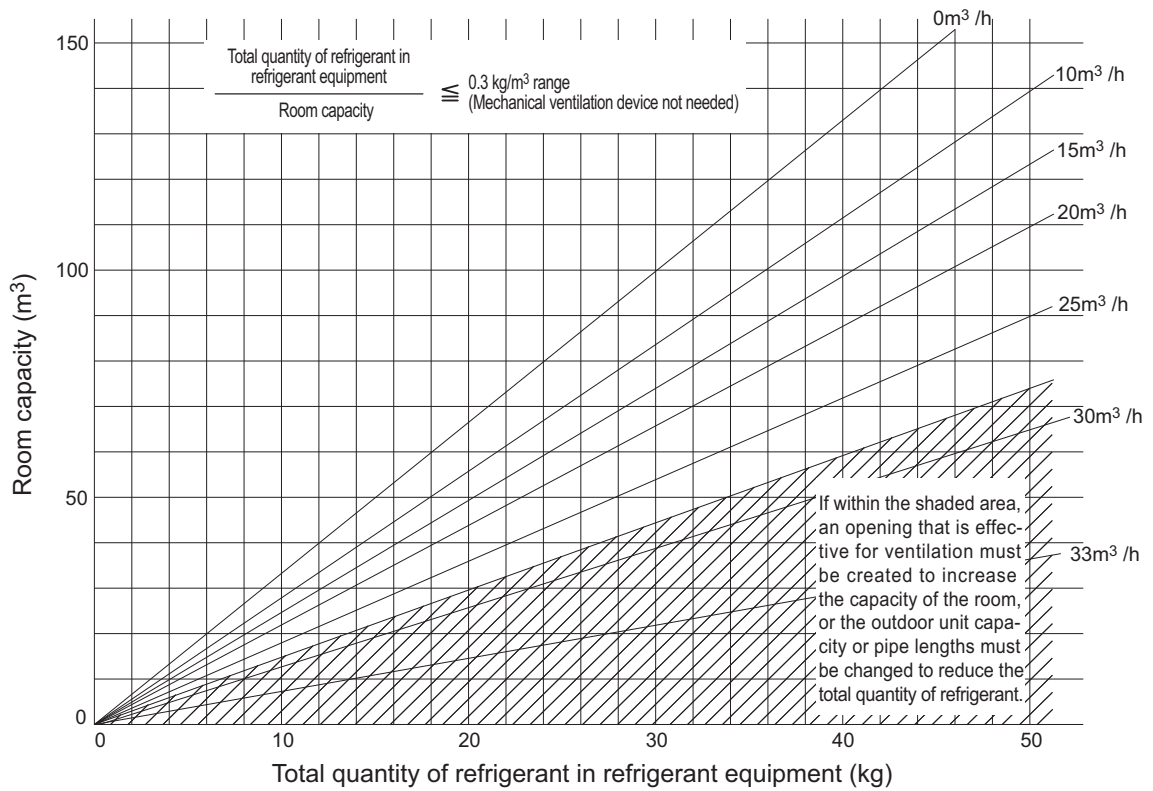

Figure 1: Selecting the system based on ventilation capacity
The exhaust capacity must be at least as large as indicated in Figure 1, based on the total quantity of refrigerant in the refrigerant equipment and the room capacity.
- a) Even if a ventilation system is to be installed, the conditions indicated by the shaded area of Figure 1 should be avoided due to the possibility, even if remote, of the ventilation system failing. If actual conditions fall into this area, openings that provide effective ventilation should be created as described in **Measure 1** and **Measure 2** in order to increase the capacity of the room, or the total quantity of refrigerant should be reduced by changing the capacity of the outdoor unit or the length of the pipes.
- b) If **Measure 1** **Measure 2** cannot be implemented when a ventilation system is installed and actual conditions fall under the shaded area of Figure 1, implement another means of ensuring safety that is independent of the ventilation system. For example, install a refrigerant shut-off valve that is activated by a sensor when a refrigerant leak occurs, or a reliable alarm system that will alert people in the room to danger. The sensor for this system should be different from the sensor that activates the ventilation system. Figure 4 shows the system when a refrigerant shut-off valve is installed.